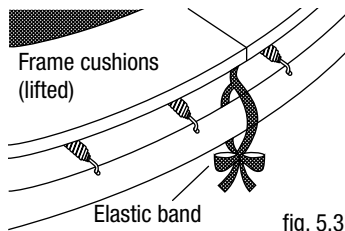

fig. 5.3
- c) Tighten the elastic bands which are not over a leg support so that the frame cushioning covers the frame. Knot both ends together. (see fig. 5.3).